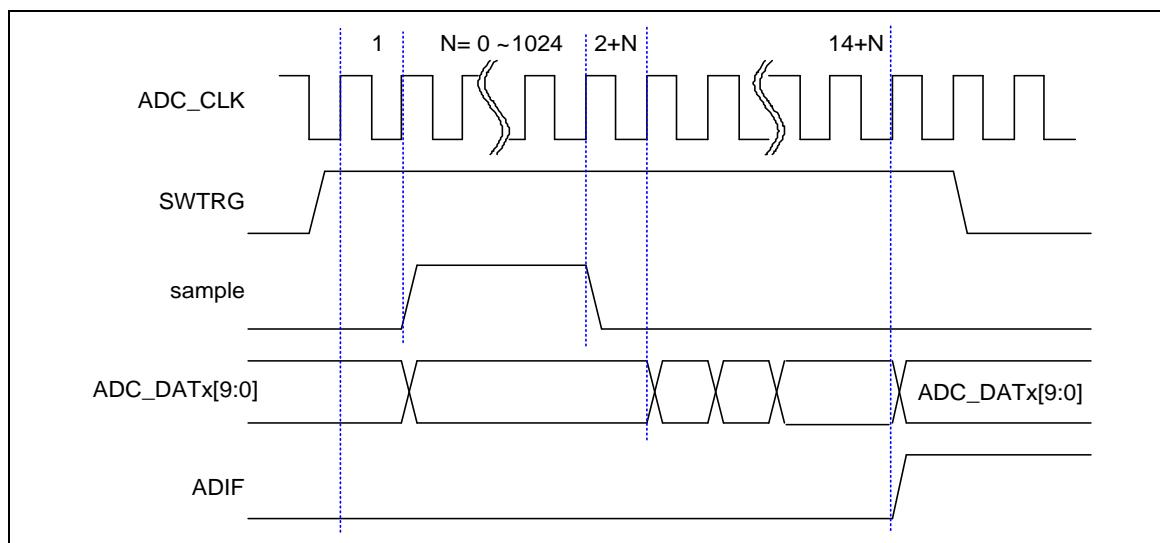

Figure 6.13-3 Single Mode Conversion Timing Diagram
5. Figure 6.13-3 shows an example timing diagram for Single mode.